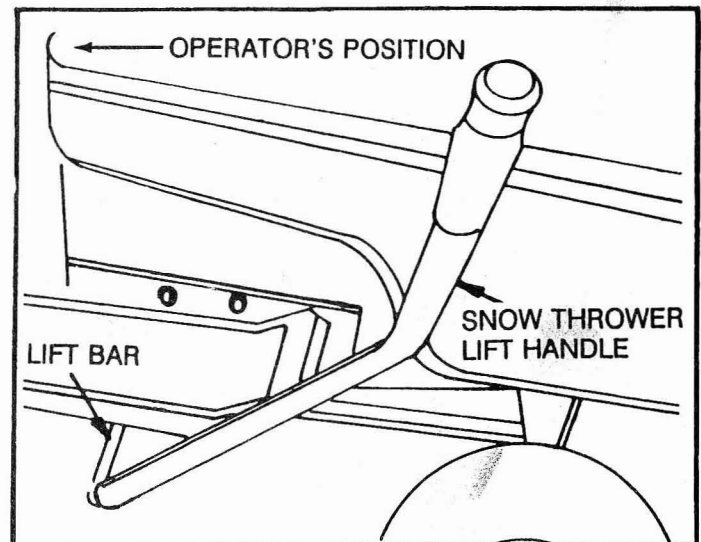

FIG. 19
- Slide Lift Handle over the end of the lift Bar with the offset toward the operators position of the tractor. (See Fig. 19)